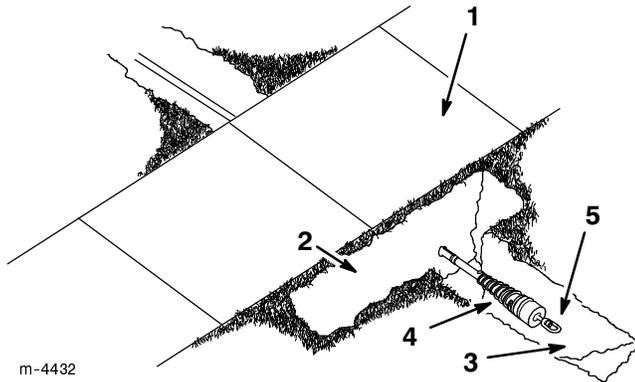

Figure 5
15. With a shovel, carefully dig around the boring bit clearing it of soil until it can be removed (Fig. 5).
16. Remove the boring bit and attach the reamer (Fig. 5).
17. Attach the cable or piping being installed to the swivel on the end of the reamer (Fig. 5).